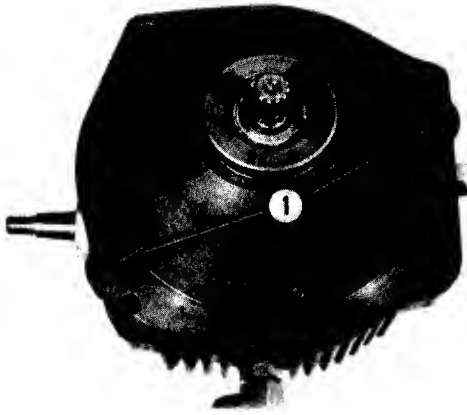

FIG. 4.45-OUTPUT SHAFT SIDE UP
1. Wear Button Location (2).
8. Invert transmission on wood block so that output shaft is up as shown in Fig. 4.45.
9. Remove two cap screws, No. 1, Fig. 4.45, and then re-install about two threads.